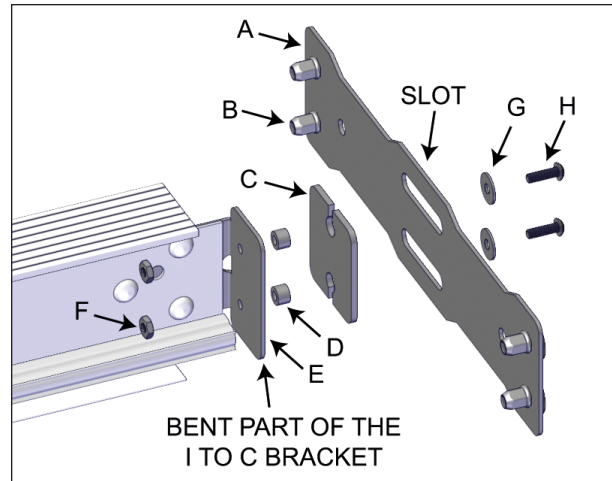

FIGURE 20: I TO C LONG CONNECTION PLATE INSTALLATION
1. Install an I to C long connection plate as shown in Figure 20. See the table following the figure for the fasteners to use.
Do not forget to orientate the nut inserts of the connection plate facing inwards, see Figure 20.
The orientation and the installation of each component shown on Figure 20 must be imperatively and exactly mounted as it is shown on the figure to succeed the cover installation.